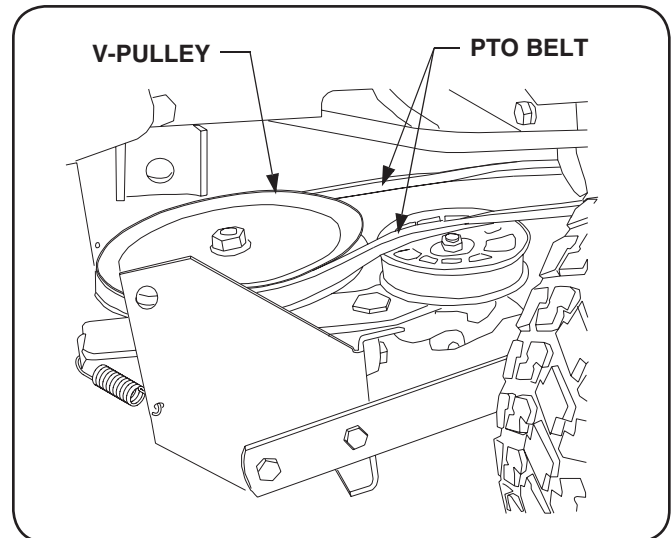

Figure 5-7
- Routing the PTO belt rearward under the tractor frame, install the narrow side of the belt in the V-pulley on the snow thrower gearbox. See Figure 5-7. Make certain there is no more than a 1/4 inward twist in both runs of the belt.
5. Remove the PTO belt from the rear V-pulley on the snow thrower gearbox (Refer to Figure 5-7)